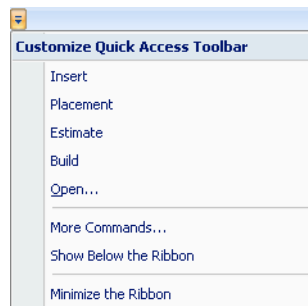

Figure 5-63: *Customize Quick Access Toolbar* menu
- From the *Customize Quick Access Toolbar* menu (see figure 5-63 on page 46), select **More Commands**.